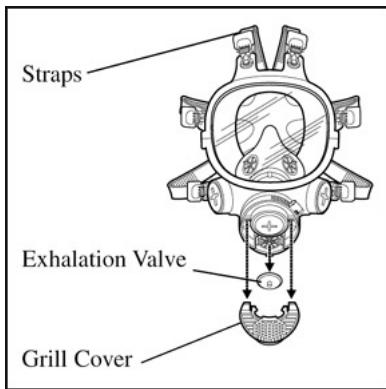

Fig. 15
5. Replace the valve if necessary. Secure the valve cover prior to use. (Fig. 15) Examine the lens for signs of cracking or other damage. Replace if necessary.